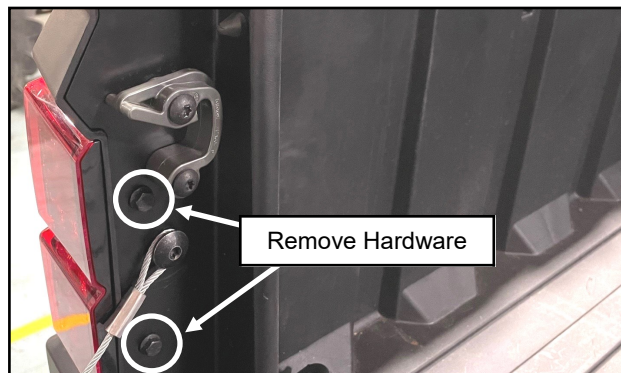

Fig. 2; Remove Left Tail Light
2. Open the tailgate. Use a 10mm socket to remove the left and then right tail lights. See Fig. 2.